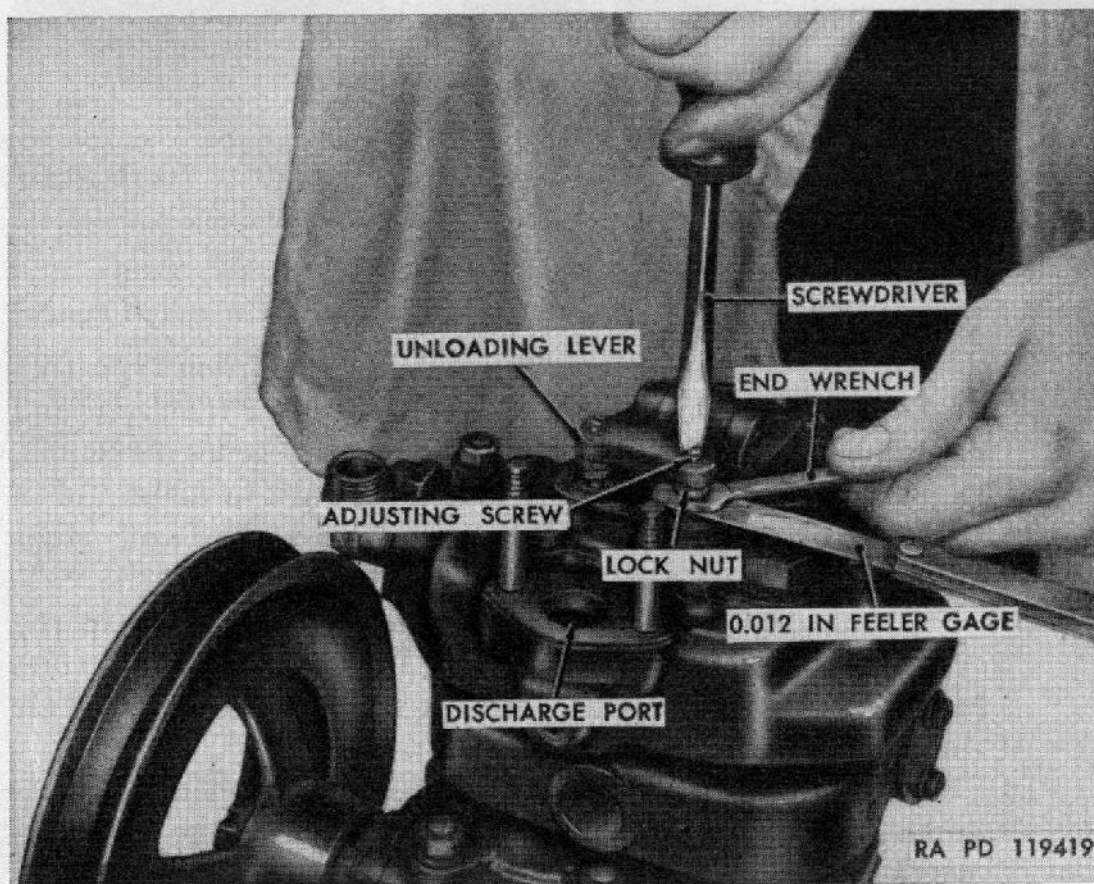

Figure 141. Adjusting air-compressor unloader valves.
a. UNLOADER VALVE CLEARANCE ADJUSTMENT (fig. 141).
- (1) Remove unloader-valve cover from cylinder head and discard gasket.